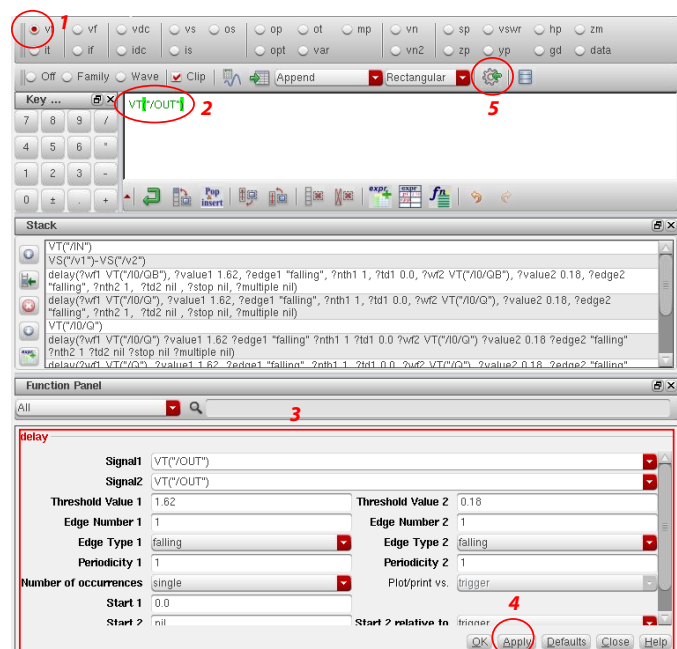

Figure 1.26: ADE calculator setup.
5. Define the delay measurements. To measure some stuff from the curves (falling time, propagation delay, maximum voltage etc.), we will use the Cadence calculator. To do so, first open the Calculator (in the ADE window: *Tools -> Calculator...*). The calculator window should appear, as shown in Fig. 1.26. The Calculator is a very powerful tool which can help you define expressions and waveforms, plot circuit time or frequency responses, perform useful transforms, signal post-processing and/or analysis. It has many pre-defined mathematical and processing functions and also allows you to define your own functions.
- (b) Select the appropriate signal you want to measure from (in this case, we want to measure the rising and falling time so select the output signal of your inverter): click on *vt* and select the signal on the schematic (step 1 in Fig. 1.26).
- (c) Copy/paste the name of the signal in the Signal 1 and signal 2 fields of the calculator (step 2 in Fig. 1.26). Here, signal 1 and signal 2 are the same since we are measuring the falling delay which is on a single signal.
- (d) Specify the other fields as in the picture (step 3 in Fig. 1.26). In this example, we show how to measure the falling delay (although the rising delay is obtained similarly). Threshold Value 1 is the value for which the time will be measured for the first point. If you want to measure the falling delay, it is 90% of V_{DD} so 1.62V. In the same manner, Threshold Value 2 is the value for which the time will be measured for the second point, so it is 10% of V_{DD} so 0.18V. Both Edge Types are falling since you are measuring a falling delay.